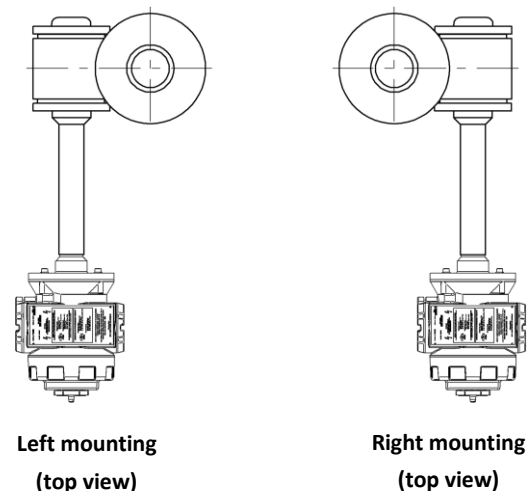

Figure 7
4.2.2.3. Instrument case mounting (Figure 7)